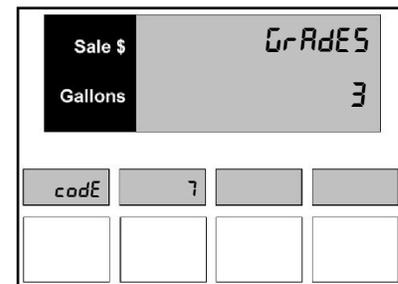

Figure 7.3 - Grades
5. Once **Enter** has been pressed, the number of grades appears in the main display. The default setting is for 3 grades per side of the dispenser as shown in *Figure 7.3*. **Note:** Remember when setting the number of grades that this is per side of the dispenser.